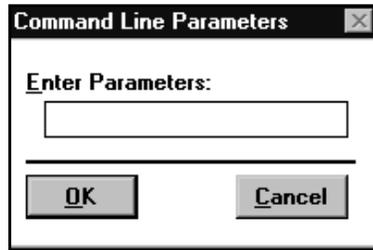

FIGURE 59. Example of Command Line Parameters dialog box
5. Select Add Parameters to add any necessary command line parameters to a selected application. (See Figure 59.)